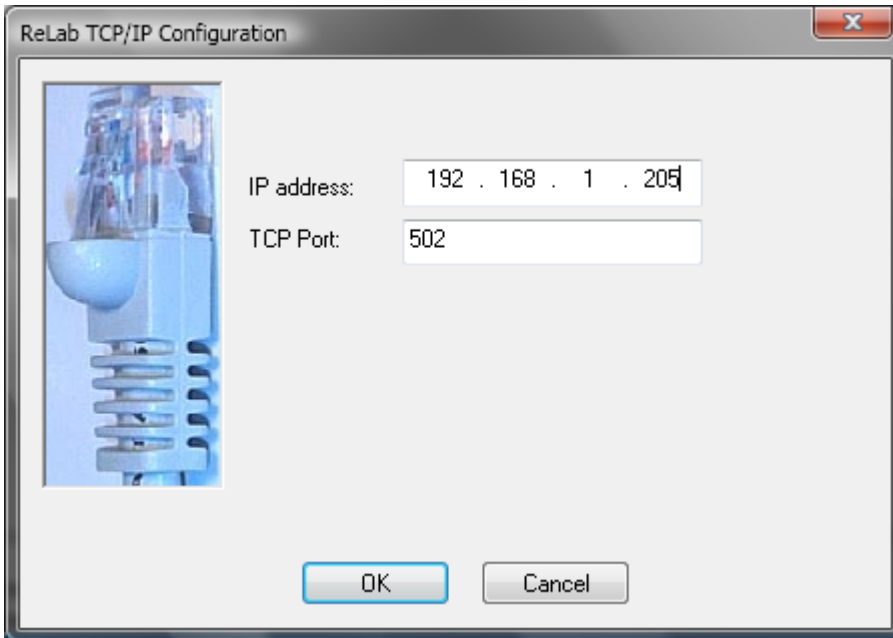

Figure 6
4. Click "OK" button, the connection dialog will appear (Figure 6)